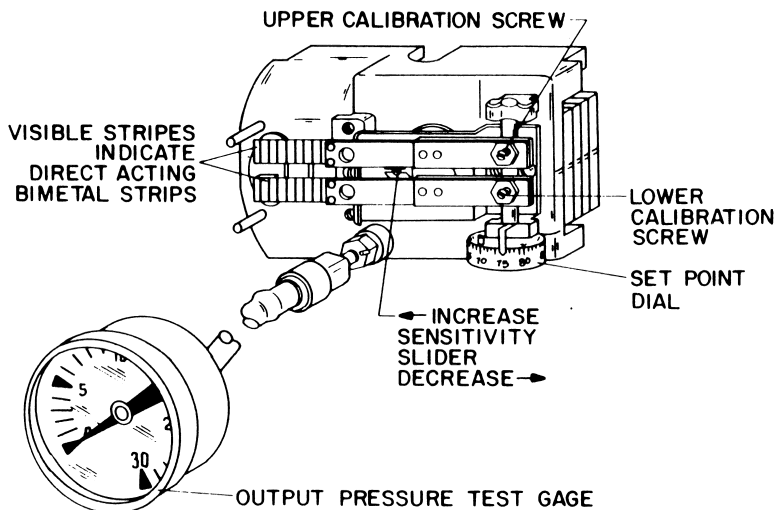

Fig. 2: T-4752 Adjustments
**Set Point Adjustment When Heating Set Point and Cooling Set Point are Identical (See Fig. 2)**
### **Set Point Adjustment When Cooling Set Point is Different Than Heating Set Point Shown on the Dial (See Fig. 2)**
The T-4752 is factory set at  $2.5 \pm 0.5$  PSI/F° ( $31 \pm 6$  kPa/C°). Some situations may require a sensitivity adjustment for proper instrument operation. To do so, move the sensitivity slider to the left to increase or to the right to decrease the sensitivity setting. If the output pressure changes do to moving the slider, restore the output pressure to its original value by turning the adjustment screw on the slider clockwise to decrease or counterclockwise to increase the pressure (see Fig. 2). **Note: This screw is not intended for set point calibration.**